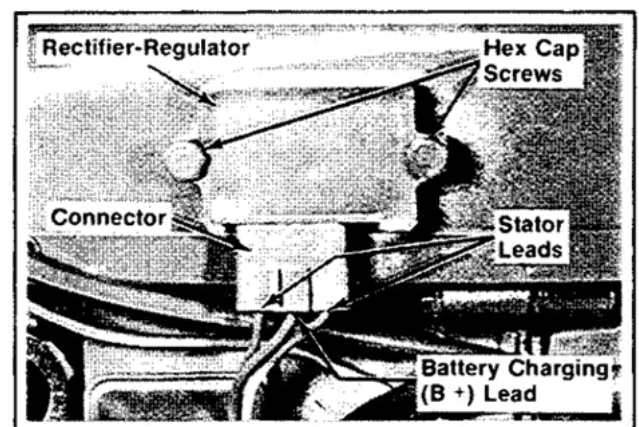

Figure 11-49. Installing Rectifier-Regulator.
1. Install the rectifier-regulator and hex cap screws. Refer to Figure 11-49.